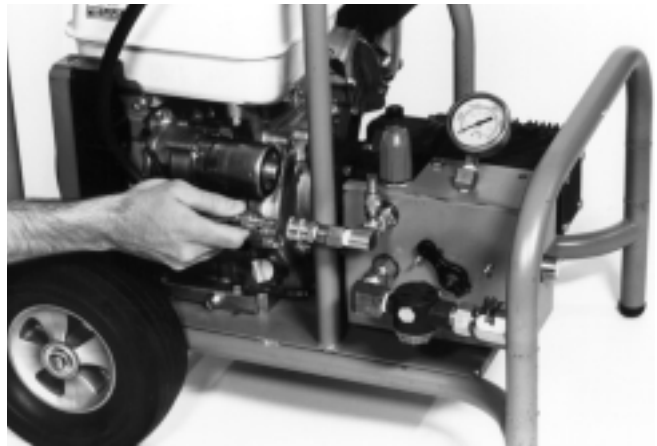

Figure 2 – Connect Jetter Hose
5. Connect the hose reel's connection hose to the jetter's quick coupling (*Figure 2*).
4. Make sure the hose reel’s connection hose is attached to the jetter’s outlet quick coupling (*Figure 2*).
- If a separate hose reel is used, attach hose to jetter’s outlet quick coupling as shown in *Figure 2*.